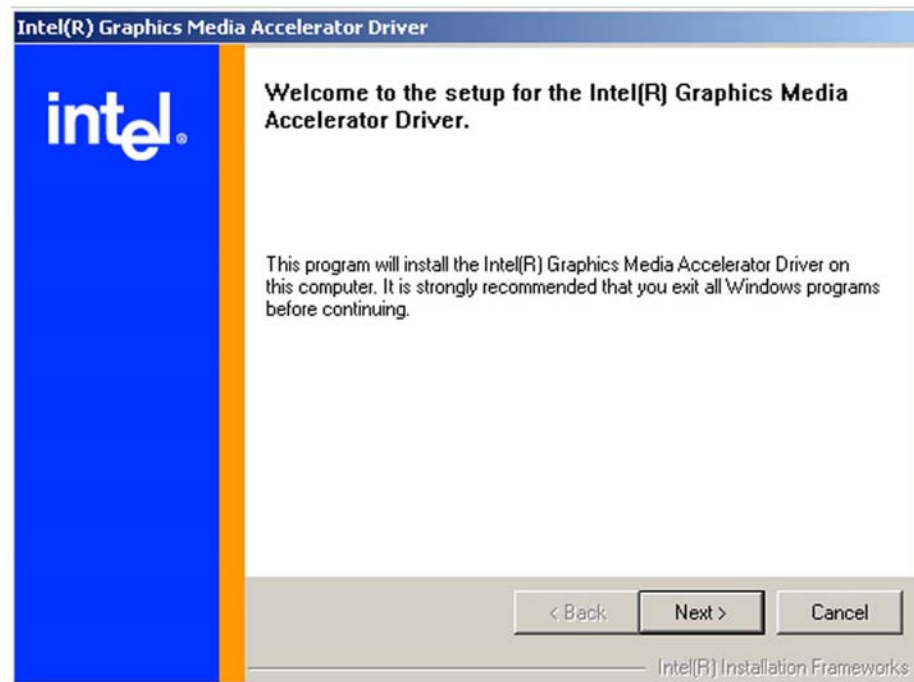

Figure 6-13: GMA Driver Installation Welcome Screen
- Step 2:** Once double clicking the Setup icon, a Welcome screen shown in **Figure 6-13** appears.